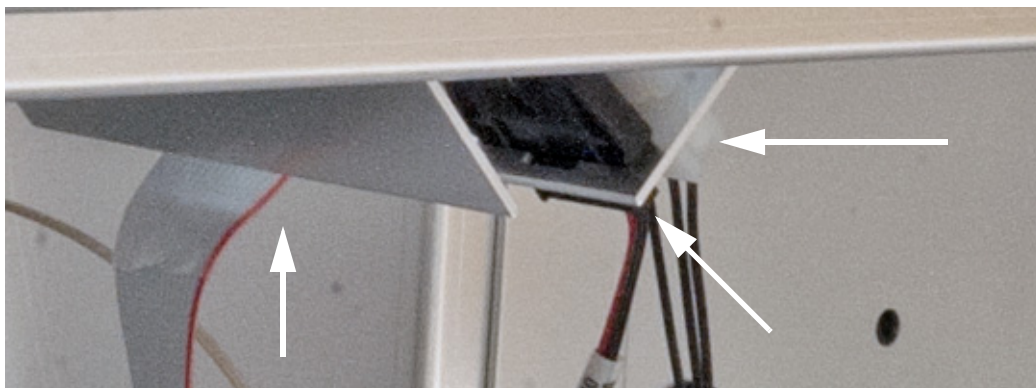

Figure 7 Disconnect the three cables from wire harness
- 5 Disconnect the three cables from the wire harness on the underside of the top tray base plate (Figure 7).